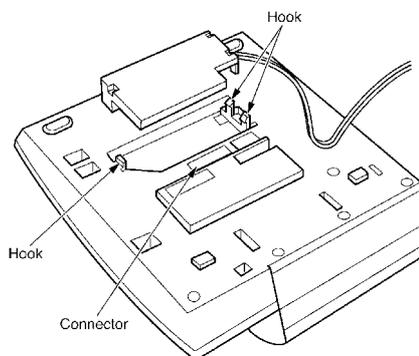

Figure 7-10 Attaching the ADA-UA Unit to the Multiline Terminal
3. Plug the unit into the receptacle connector inside the base plate. Refer to *Figure 7-10 Attaching the ADA-UA Unit to the Multiline Terminal*.